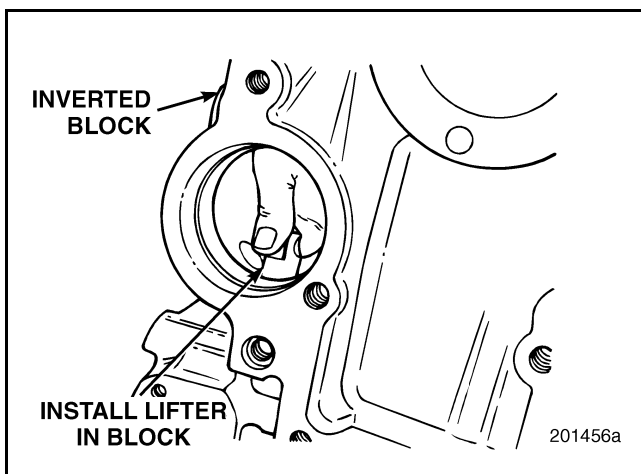

Figure 348 — Valve Lifter Installation
3. Install the lifters into the cylinder block lifter bores as shown in Figure 348.